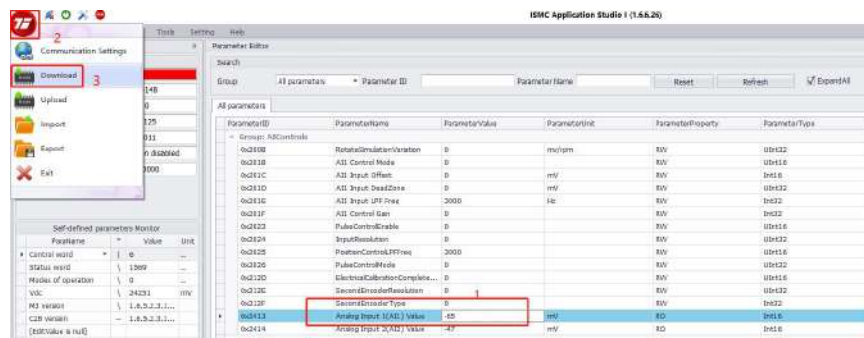

Figure 4-24 Parameter modification
①According to the grouping and index of the parameter, as well as the parameter name and description, determine the parameter that needs to be changed, double-click the parameter value to modify it, click Enter to finish the modification, and you can see the feedback of successful parameter modification in the lower left corner of the parameter editor, as shown in Figure 4-24.